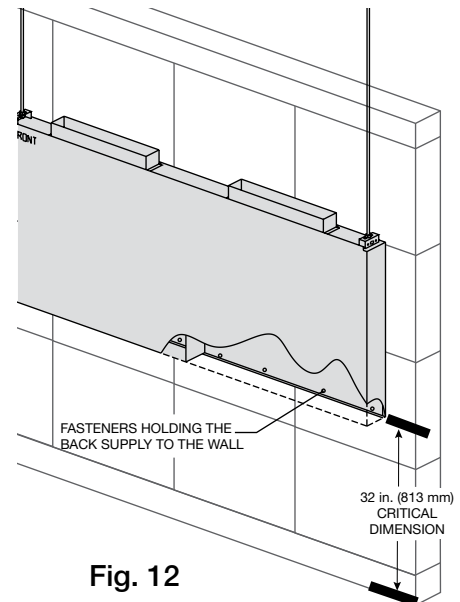

Fig. 12
6. Fasten the Back Supply to the wall, going through the lower Back Supply wall. (Fig. 12)